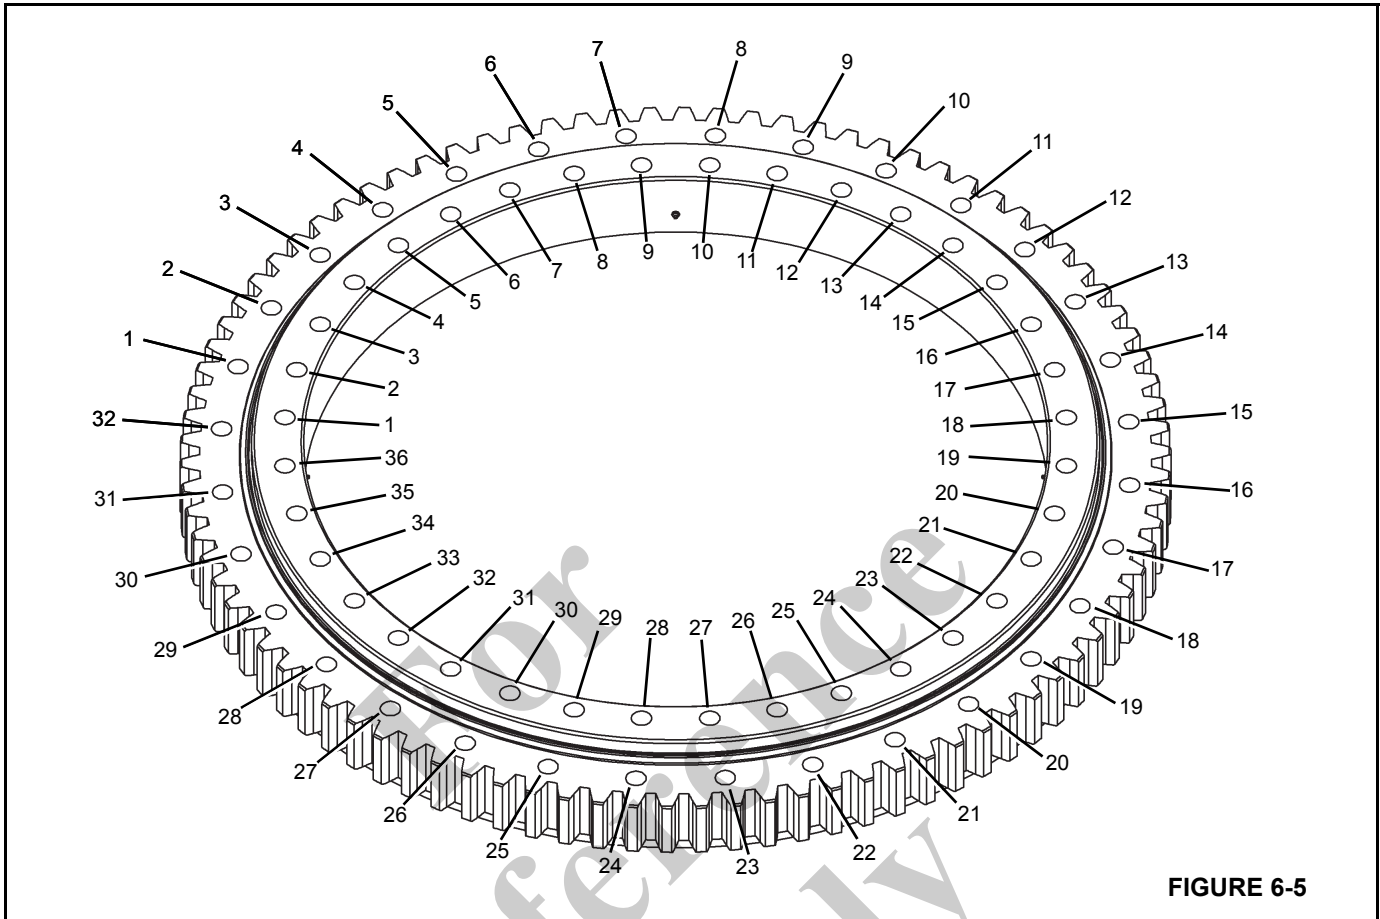

FIGURE 6-5
The inner race of the bearing is secured to the turret by 36, 7/8 inch Grade 8 bolts (Figure 6-5). The outer race of the bearing is secured to the carrier frame by 32, 3/4 inch, Grade 8 bolts (Figure 6-5).
2. Torque eight bolts (Figure 6-5) to 637 Nm  $\pm$  27 Nm (470 lb-ft  $\pm$  20 lb-ft) using the following sequence pattern; 1, 19, 10, 28, 6, 23, 15, and 33. Tools used are the socket, multiplier, backlash adapter, necessary extensions, and torque wrench.
Torque eight bolts (Figure 6-5) to 637 Nm  $\pm$ 27 Nm (470 lb-ft  $\pm$ 20 lb-ft) using the following sequence pattern; 1, 17, 9, 25, 4, 20, 12, and 28. Tools used are the socket, multiplier, backlash adapter, necessary extensions, and torque wrench.